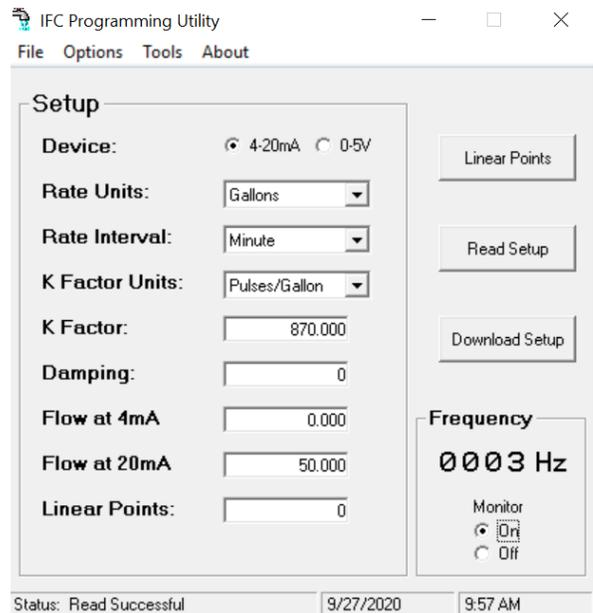

Figure 4: IFC programming utility
1. Run the IFC Programming Utility Software shown in Figure 4.